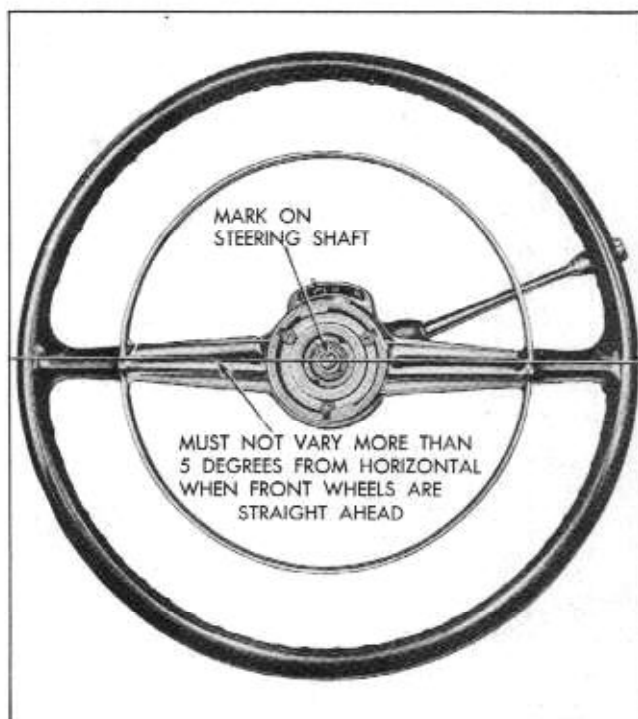

Fig. 9-7 Locating Steering Wheel Position
3. Reassemble steering connecting rod to pitman arm. Set spokes of steering wheel in straight ahead position (mark on steering shaft up, Fig. 9-7). If road wheels are not straight ahead, adjust steering tie rods as outlined on page 3-7.
4. To replace, reverse above procedure. Be sure wheel is in straight ahead position (Fig. 9-7). Tighten steering wheel nut to 25-30 lb. ft. torque. Tighten lock nut finger tight plus  $\frac{1}{4}$  turn.
14. Install steering wheel. See that wheel spokes are in straight ahead position when steering gear is on high point of cam with mark on end of steering shaft up (Fig. 9-7) and wheels are in straight ahead position.